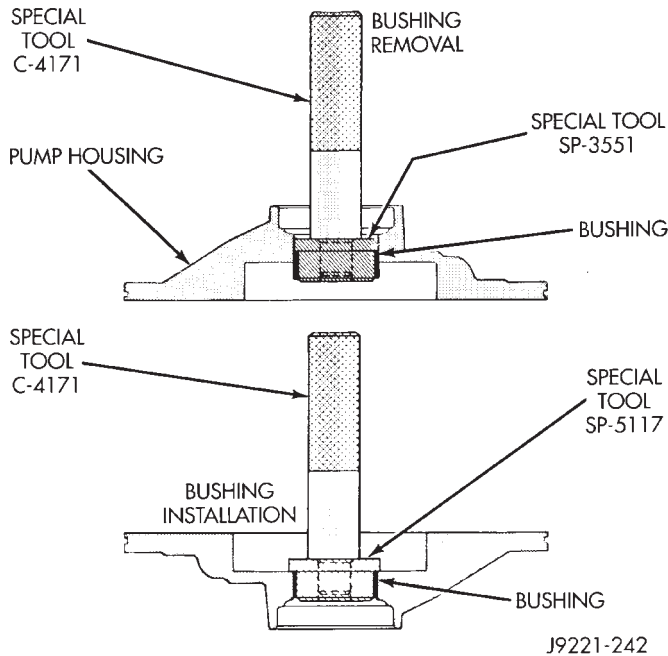

Fig. 54 Removing Oil Pump Bushing
(1) Remove pump bushing with Tool Handle C-4171 and Bushing Remover SP-3551 (Fig. 54).
(2) Install new pump bushing with Tool Handle C-4171 and Bushing Installer SP-5117 (Fig. 54). Bushing should be flush with pump housing bore.